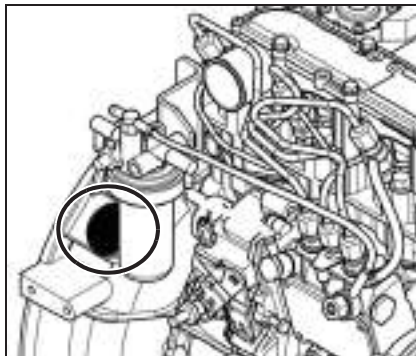

Fig. 4: Flywheel housing cap
- ☞ Remove the cap on the flywheel housing, see Fig. 4